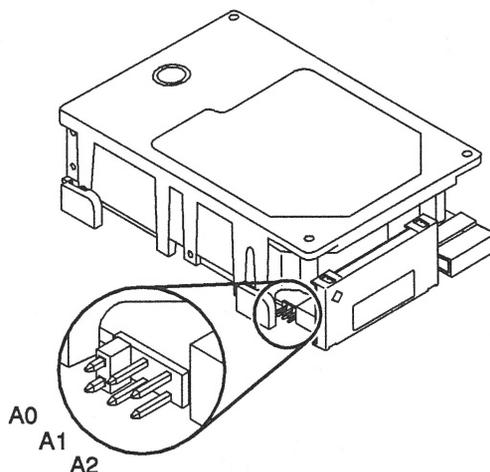

Figure 3-8 Drive Position 1 Jumper Settings
b. If you are going to install a drive in position 1, compare the address jumper settings to the settings shown in Figure 3-8.